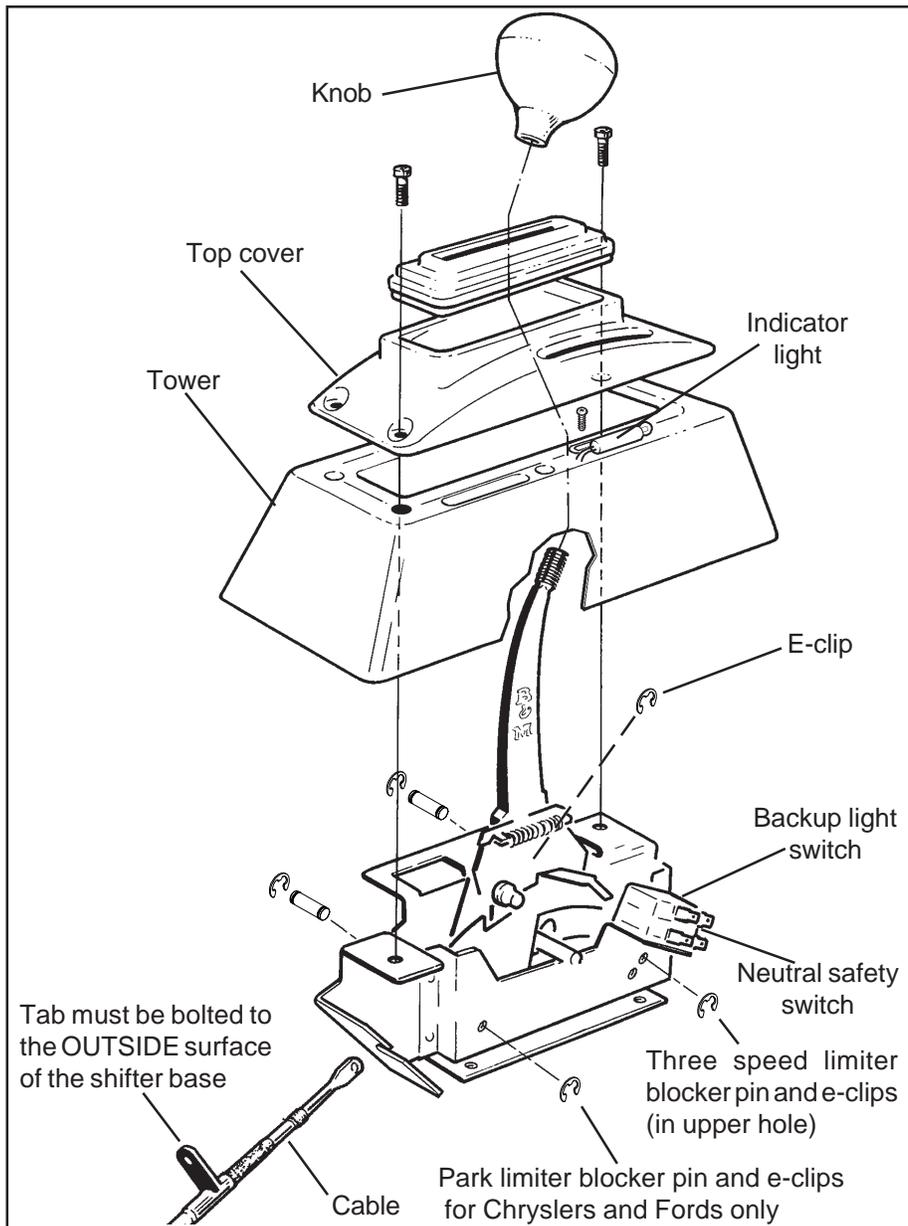

Figure 1
To use this shifter with a GM four speed automatic transmission, you will need to remove the three speed limiter blocker pin and the two e-clips (**See Figure 1**). For the Ford AOD four speed transmissions do **not** remove this blocker pin.
To use this shifter with a Ford or Chrysler automatic transmission, install the blocker pin and the two e-clips (**See Figure 1**). This limiter limits the travel of the shifter when it is shifted into Park, so that it does not stretch the cable.
NOTE: If you are installing this shifter with a GM four speed automatic transmission, you must remove the three speed limiter blocker pin and the e-clips indicated in **Figure 1**. Removing this blocker pin gives the shifter four forward positions rather than three. For Ford AOD four speed automatic transmissions and Chrysler A-500 and A-518 four speed automatic transmissions do **not** remove this blocker pin, since these transmissions have only three forward positions. Also do **not** remove the blocker pin and the e-clips for any three speed automatic transmissions. (The three speed limiter blocker pin goes in the upper of the two holes at the rear of the shifter).
the Park limiter blocker pin and the e-clips as also indicated in **Figure 1**. This limiter limits the shifter travel into the Park position, since Ford and Chrysler transmissions have less travel between Reverse and Park than GM transmissions do.
STEP 5. Install the cable on the shifter as shown in **Figure 1**. The cable attachment tab must be bolted to the outside surface of the shifter base using the supplied 1/4" X 1/2" hex bolt, lock washer and nut. Put the end of the indicator link on the cable pin outside of the shifter cable. Install the e-clip to secure the cable.
STEP 6. Install the backup light switch and the neutral safety switch in place on the shifter mechanism. Install them using the two supplied #4-40 screws, nuts and lock washers, as shown in **Figure 1**. If necessary, bend the fingers slightly so that they engage the slots. **Beware**, overtightening the switch attachment screws will crack the switch housings. Adjust the switches so that the neutral safety switch (the lower
STEP 11. If you have a four speed automatic transmission, be sure that you have removed the three speed limiter blocker pin shown in **Figure 1**. If you have a three speed automatic transmission, the three speed limiter blocker pin and e-clips should be installed. The Park limiter blocker pin and e-clips should not be installed for any GM transmission.
tion off the wires and install the slip-on terminals supplied in the kit. Crimp the terminals onto the wires using a crimping tool or pliers. Connect the neutral safety wires to the **LOWER** switch and the backup light wires to the **UPPER** switch (**See Figure 1**). Tape the terminal connections and all other connections to prevent shorts.
STEP 17. Be sure that the Park limiter blocker pin and the three speed limiter blocker pin are both installed as shown in Figure 1. The Park limiter will prevent the shifter from additional travel beyond the Ford Park position. (GM transmissions have greater travel between Neutral and Park than Ford transmissions do). The three speed limiter blocker pin is required because all Ford three and four speed automatic transmissions have only three forward gear positions, even the four speed AOD.
reverse light switches. Reroute the wires to the **B&M QuickSilver Shifter**. Strip $\frac{1}{4}$ " of insulation off the wires and install the supplied slip-on terminals. Crimp the terminals onto the wires using a crimping tool or pliers. Connect the neutral safety wires to the **LOWER** switch and the reverse light wires to the **UPPER** switch (See **Figure 1**). Tape the terminal connections to prevent shorts. Reconnect the battery ground cable, disconnect the coil wire and set the parking brake. Check the switch operation by attempting to start the motor in each shifter position. **The starter must crank only when the shifter is in the Park or Neutral position.** Check the backup light operation when the shifter is shifted to the Reverse position. Adjust the switches if required. Reconnect the coil wire. Go to **Step 25**.
STEP 22. Be sure that the Park limiter blocker pin and the three speed limiter blocker pin are both installed as shown in **Figure 1**. The Park limiter will prevent the shifter from additional travel beyond the Chrysler Park position. (GM transmissions have greater travel between Neutral and Park than Chrysler transmissions do). The three speed limiter blocker pin is required because all Chrysler three and four speed automatic transmission have only three forward gear positions, even the four speed A500 and A518.
'66-'68: The neutral safety switch will continue to function normally. It will not be necessary to hook up the neutral safety switch wires on the shifter. Disconnect the battery ground cable before wiring the backup light switch. Locate the original backup light switch on the steering column or the console shifter. Run these wires to the **UPPER** switch on the **B&M QuickSilver Shifter** (See **Figure 1**). Reconnect the ground wire and check the light for proper operation. Adjust the switches on the shifter if required.
STEP 27. Mount the indicator light on the tower (See **Figure 1**). The light socket can mount on the top or the bottom of the tower depending on the brightness desired. Mount the socket so the bulb is to rear of the tower and secure it using one 10-24 self-tapping screw. Do not over-tighten as you may strip out the hole in the tower. Place the tower into position on the shifter. Connect one wire from the light socket to a good chassis ground. A shifter mounting bolt should be satisfactory. Run a length of wire from the vehicles instrument panel light circuit to the other wire from the light socket. Secure and tape all wires. Indicator light will work with the instrument panel lights.